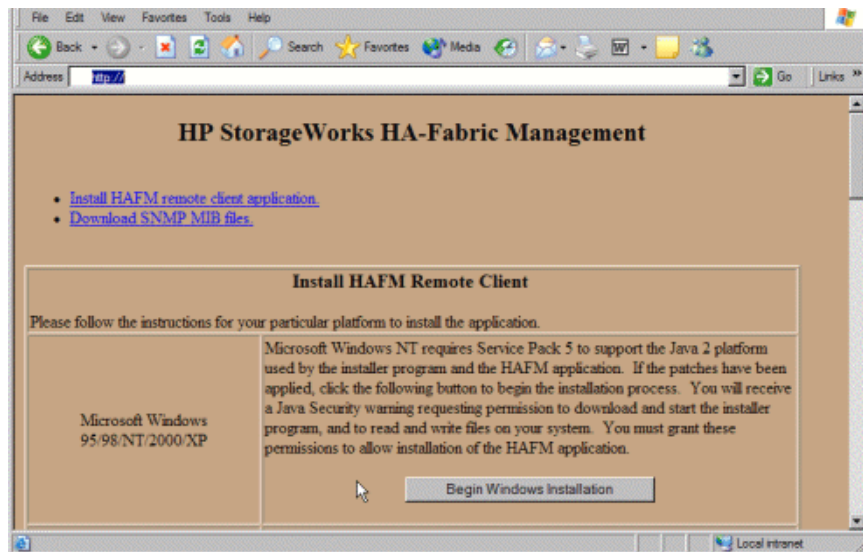

Figure 39: HAFM remote client install
4. The HAFM splash screen displays with the following options, see Figure 39.